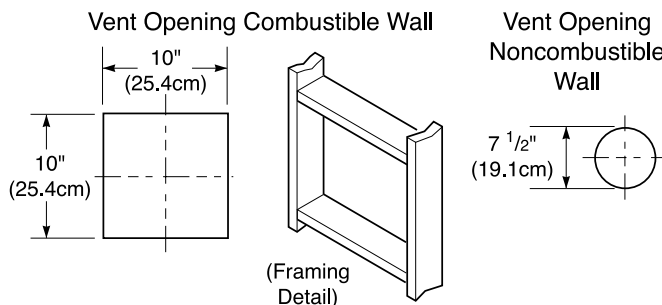
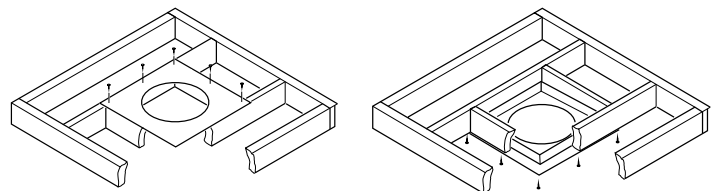

Figure 25 - Vent Opening Requirements
Figure 33 - Installing Firestop
For two-story applications, firestops are required at each floor level (see Figure 33, page 16). If an offset is needed in the attic, additional pipe and elbows will be required.
- Attach vent pipe assembly to the burner system. Set stove in front of its permanent location to insure minimum clearances. Mark the wall for a 10" (25.4cm) square hole (for noncombustible material such as masonry block or concrete, a 7 1/2" (19.1cm) diameter hole is acceptable). See Figure 25. The center of the hole should line up with the center-line of the horizontal rigid vent pipe. Cut a 10"x10" (25.4cm x 25.4cm) square hole through combustible exterior wall (7 1/2" [19.1cm] diameter hole if noncombustible). Frame as necessary (see Figure 25).
1. Cut a 10" (25.4cm) square hole in the ceiling using the locating hole as a center point. The opening should be framed to 10"x10" (25.4cm x 25.4cm) inside dimensions, as shown in Figure 25 on page 14 using framing lumber the same size as the ceiling joists. If the area above the ceiling is an insulated ceiling or a room, nail firestop from the top side. This prevents loose insulation from falling into the required clearance space. Otherwise, install firestop below the framed hole. The firestop should be installed with no less than three nails per side (see Figure 33).
3. Cut a hole in the roof using the locating hole as a center point. (Cover any exposed open vent pipes before cutting hole in roof.) The 10"x10" (25.4cm x 25.4cm) hole must be measured on the horizontal; actual length may be larger depending on the pitch of the roof. There must be a 1" clearance from the vent pipe to combustible materials. Frame the opening as shown in Figure 25 on page 14.